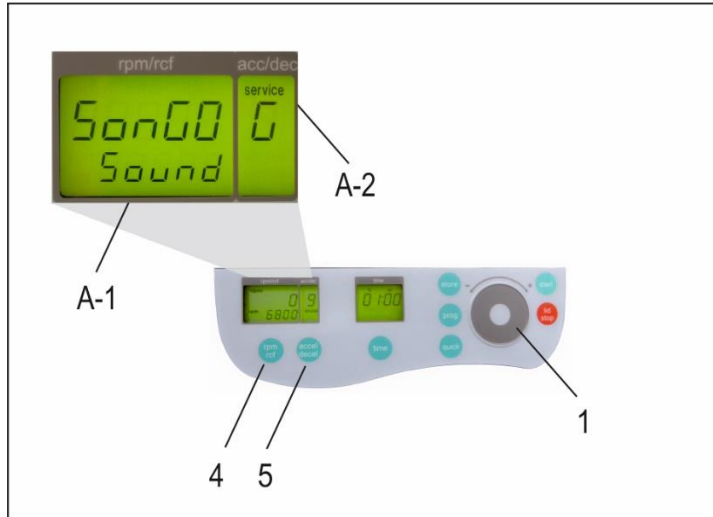

Figure 8
Proceed as illustrated, under point 3.2, to enter this program mode, press the key, "accel/decel" (5). In the display, "accel/decel" (A-2) flashes the word, "service". Select the letter, "G" with the control field (1). As a result, appearing in the display, "rpm/rcf" (A-1), the word "SonGo/Sound". After pressing the key „rpm/rcf“ (4), select a song with the adjusting knob (1), (see Figure 8).